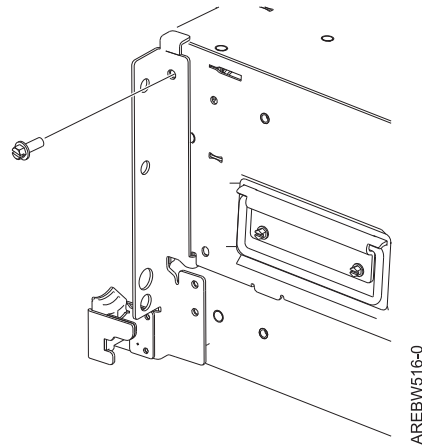

Figure 27. Rotate the top of the bracket back so that the top tab is on top of the system
- d. Rotate the top of the bracket back so that the top tab is on top of the system. Then install the screws as shown in Figure 27 on page 36.